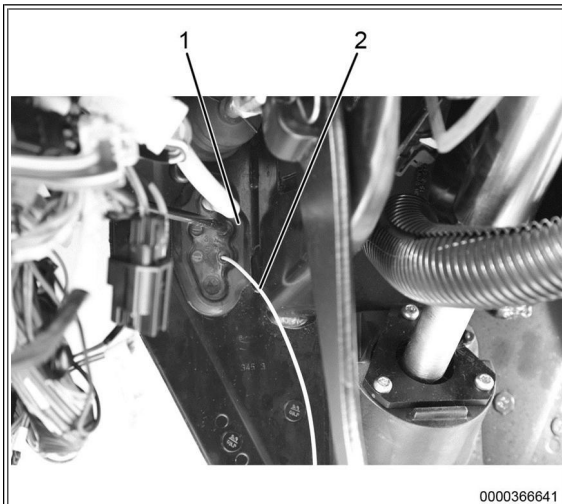

Figure 2: Interior Accessory Grommet.
7. Locate the interior accessory grommet (Figure 2, Item 1) just forward of the operator pedals.
9. Insert the unterminated side of the kit-supplied wire (Figure 2, Item 2) through the pass through location of grommet, working towards the front of vehicle.